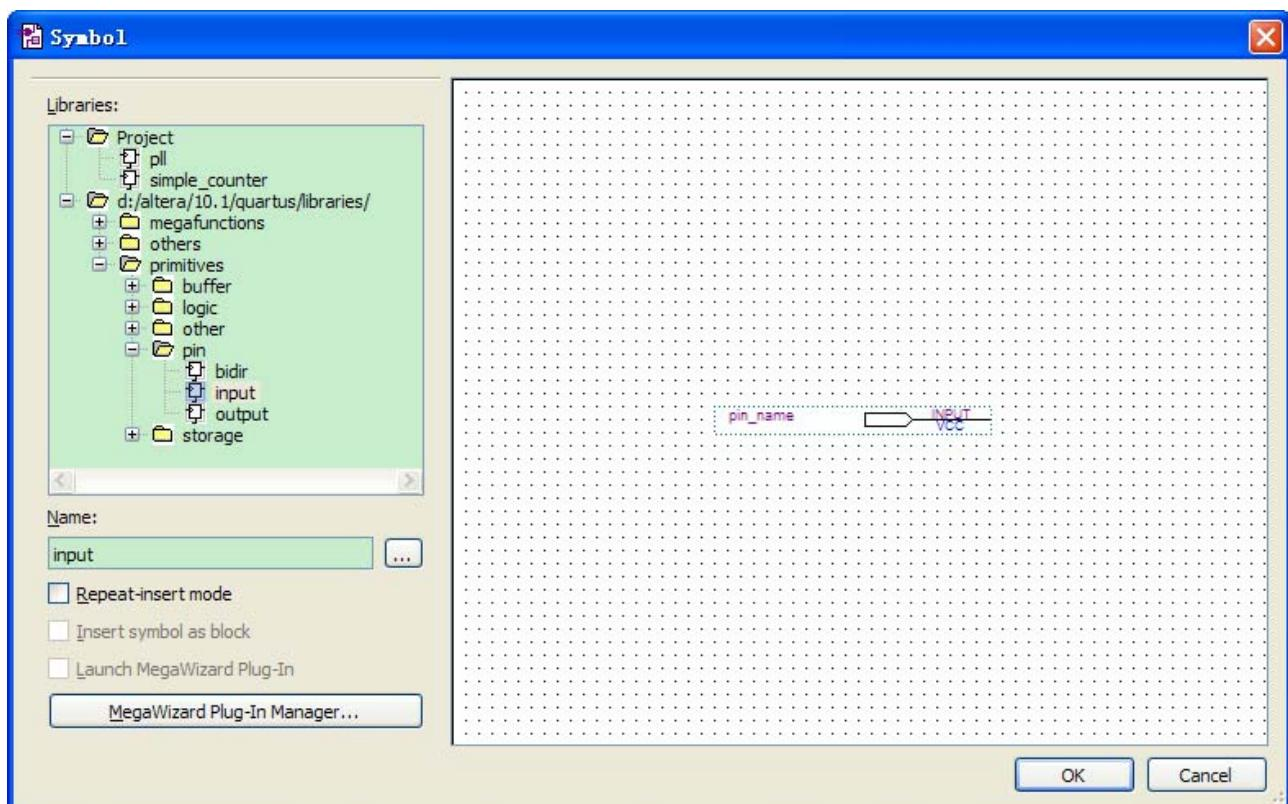

Figure 6-28 Input pin symbol
2. Under Libraries, select **quartus/libraries > primitives > pin >input**. See Figure 6-28